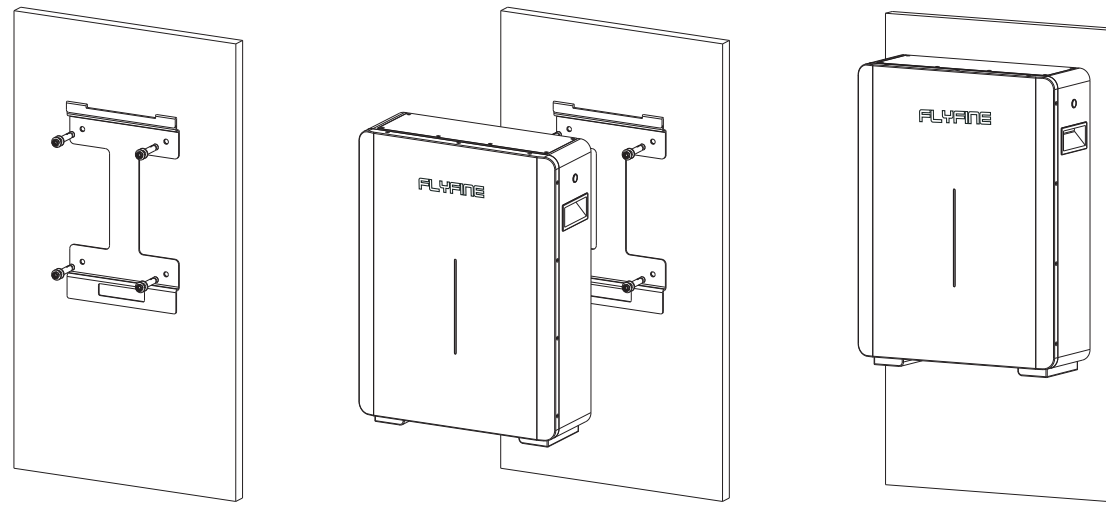

Figure 3-2
(3) Installation and Wiring
- ① Adopt wall mounting type installation, fix the battery on the wall mounting bracket, as shown in Figure 3-2.